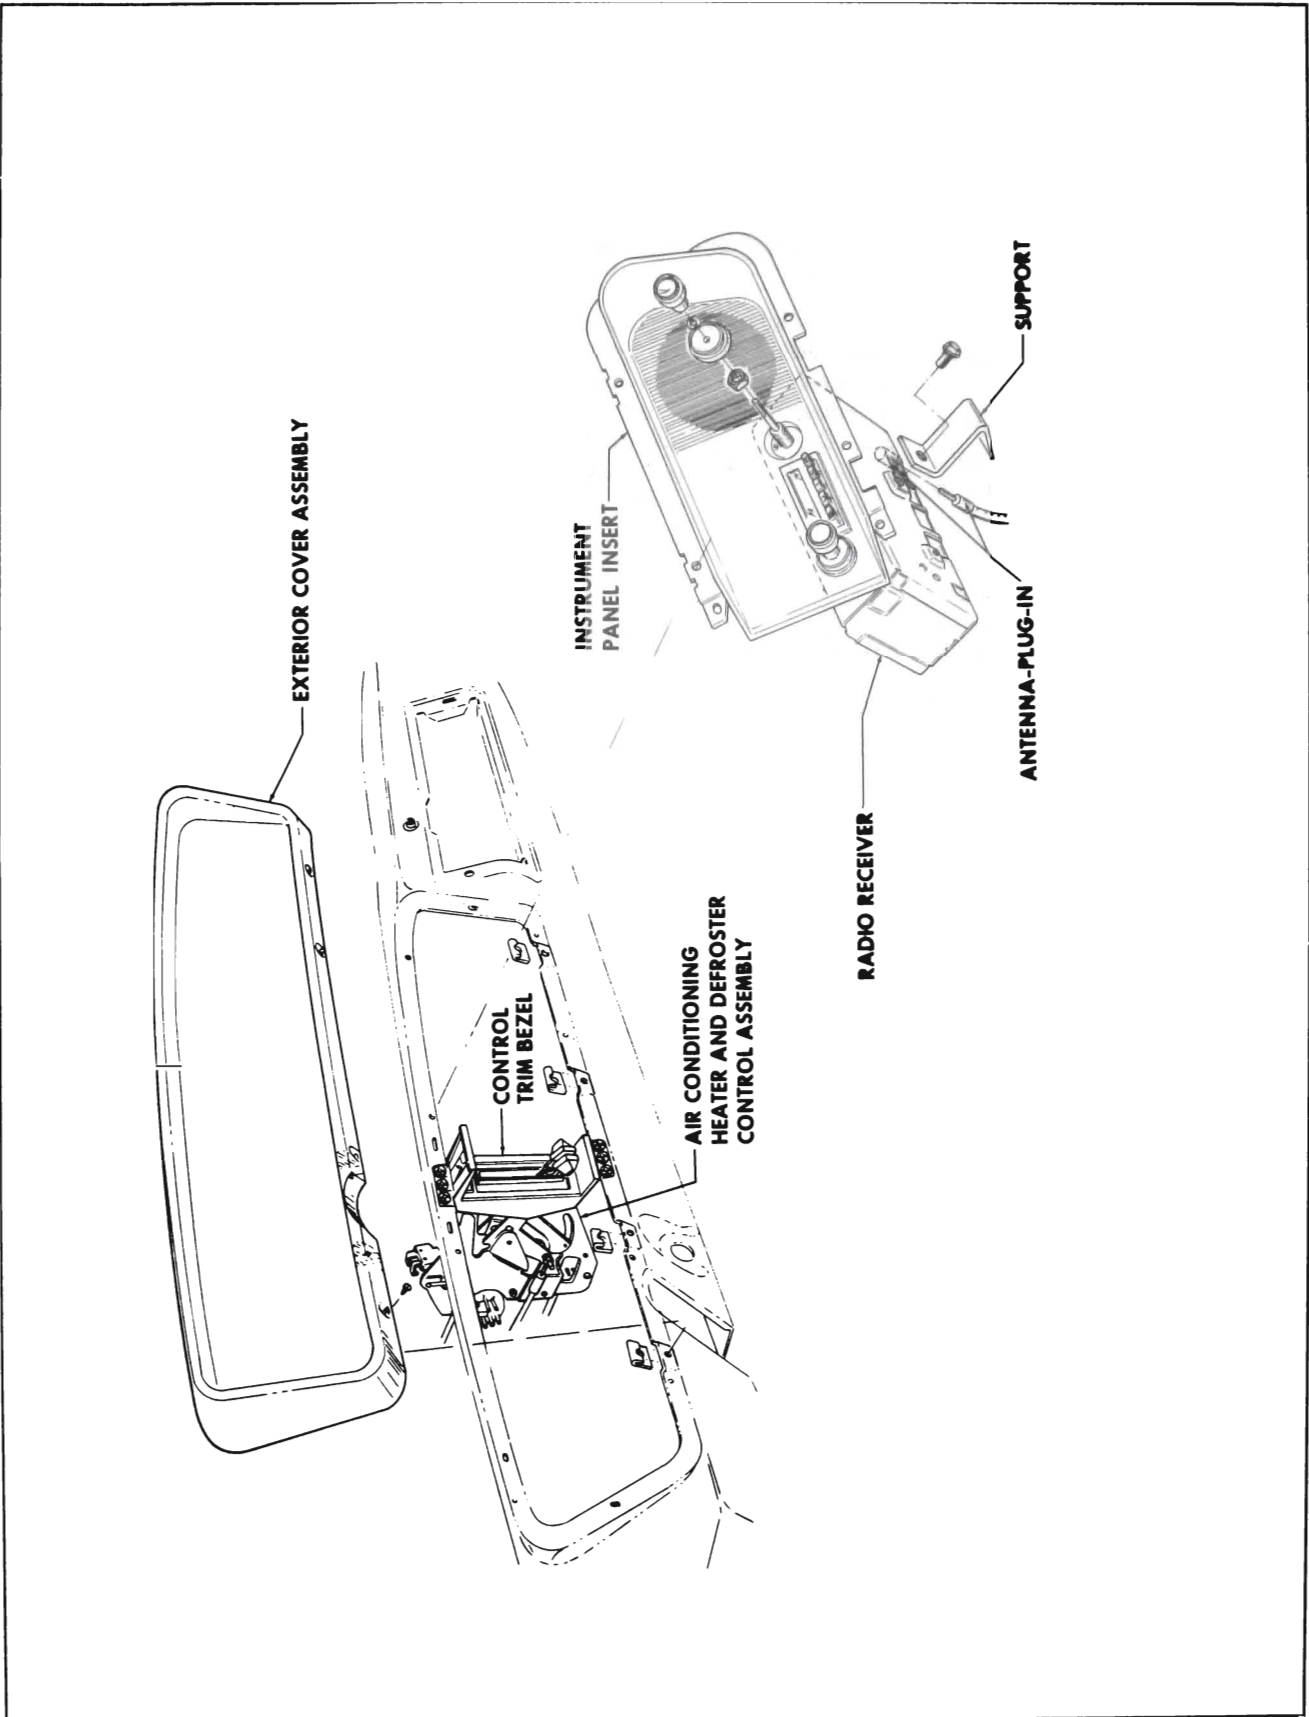

Figure 11-4—Radio Receiver Removal and Installation
2. Remove five screws and take out exterior cover assembly (see Figure 11-4).